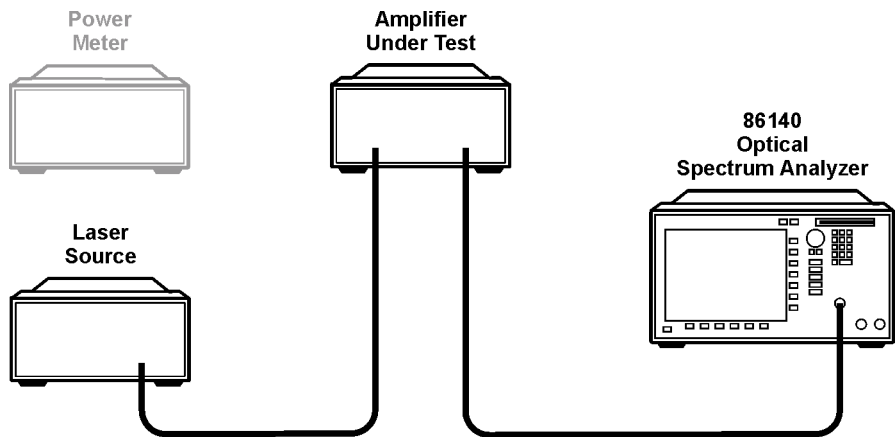

Figure 1-3. Amplifier Measurement
- 10** After measuring and verifying the path offsets, you can connect the amplifier under test as in Figure 1-3.